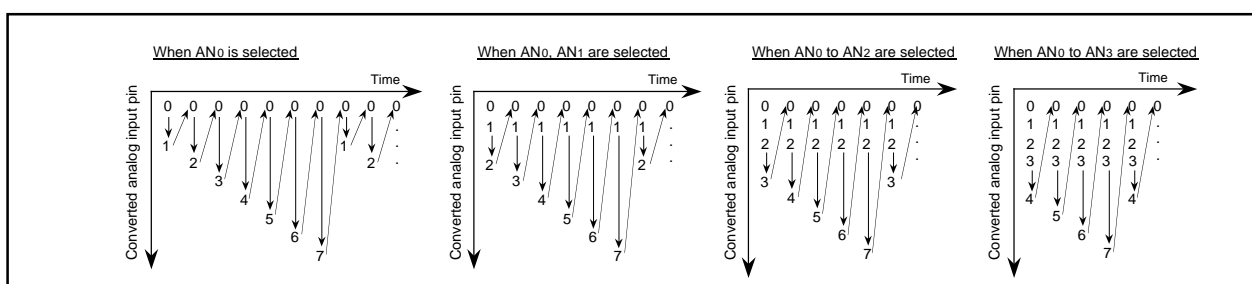
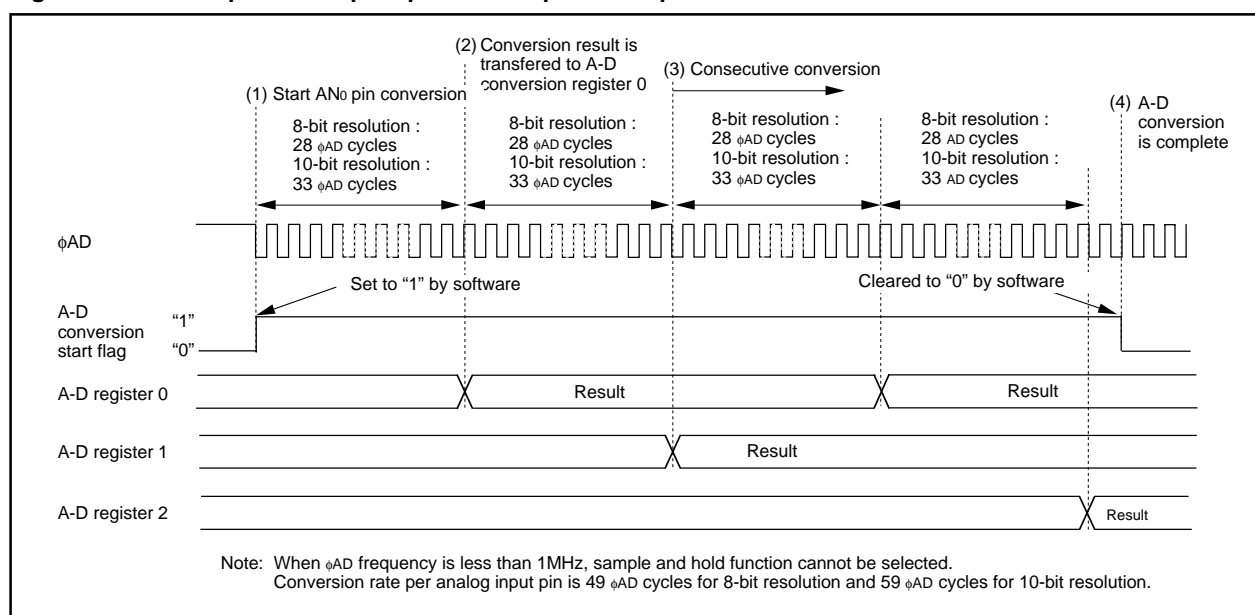

Figure 2.8.13. ANi pin's sweep sequence in repeat sweep mode 1
Figure 2.8.14. Operation timing of repeat sweep mode 1
In repeat sweep mode 1, choose functions from those listed in Table 2.8.6. Operations of the circled items are described below. Figure 2.8.13 shows ANi pin's sweep sequence, Figure 2.8.14 shows timing chart, and Figure 2.8.15 shows the set-up procedure.
- (1) Setting the A-D conversion start flag to "1" causes the A-D converter to start the conversion on voltage input to the AN0 pin.
- (2) After the A-D conversion on voltage input to the AN0 pin is completed, the content of the successive comparison register (conversion result) is transmitted to A-D register 0.
- (3) Every time the A-D converter carries out A-D conversion on a selected analog input pin, the A-D converter carries out A-D conversion on only one unselected pin, and then the A-D converter carries out A-D conversion from the AN0 pin again. (See Figure 2.8.13.) The conversion result is transmitted to A-D register i every time conversion on a pin is completed. The A-D conversion interrupt request bit does not go to "1".
- (4) The A-D converter continues operating until software goes the A-D conversion start flag to "0".